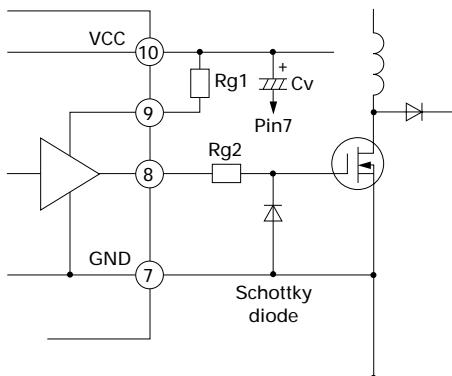

Fig. 8 Output circuit
As Fig. 8 shows, pin 9 is configured as the high power terminal (VC), independent of the IC power terminal (VCC). This pin allows an independent drive resistance when the power MOSFET is ON and OFF. If the drive resistances in the ON and OFF states are R_g (on) and R_g (off), the following formulas can be used to determine the total gate resistance